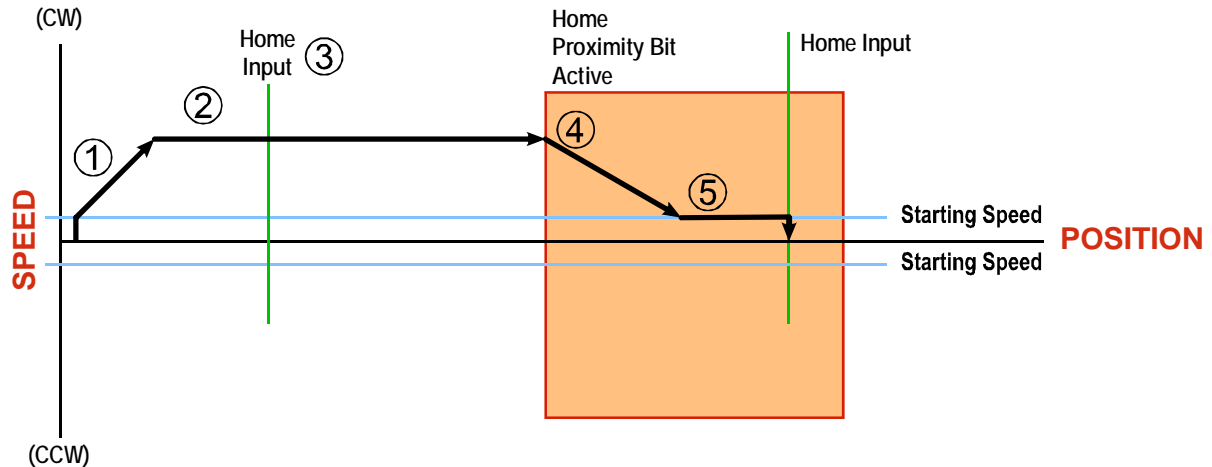

Figure 3.2 Homing with Proximity
Figure 3.2 below shows the move profile generated by a +Find Home command when you use the Home Input with Backplane Home Proximity bit.
**NOTE** Figure 3.2 shows the Backplane Home Proximity Bit staying active until the SMD23/4P reaches its home position. This is valid, but does not have to occur. As stated in step 4, the SMD23/4P starts to hunt for the home position as soon and the Backplane Home Proximity Bit makes a 0→1 transition